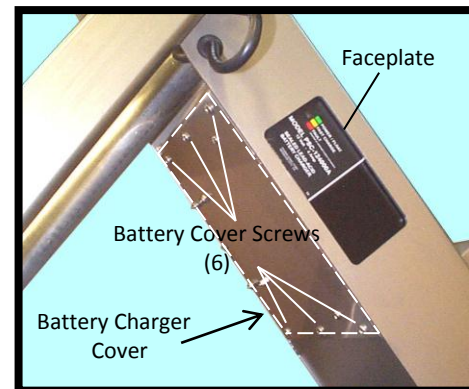

Figure 17: Battery Charger Cover
3. With a Phillips screwdriver, remove the six battery charger cover screws (Figure 17). **Note:** Do not remove any of the other fasteners on the battery charger cover; they hold internal components to the cover.
11. If the gurney operates satisfactorily, hold the battery charger cover in place and secure with the six screws. **Note:** Do not trap or pinch the wires under the cover. Also, the battery charger faceplate must show through the opening in the side of the scissor leg (Figure 17).